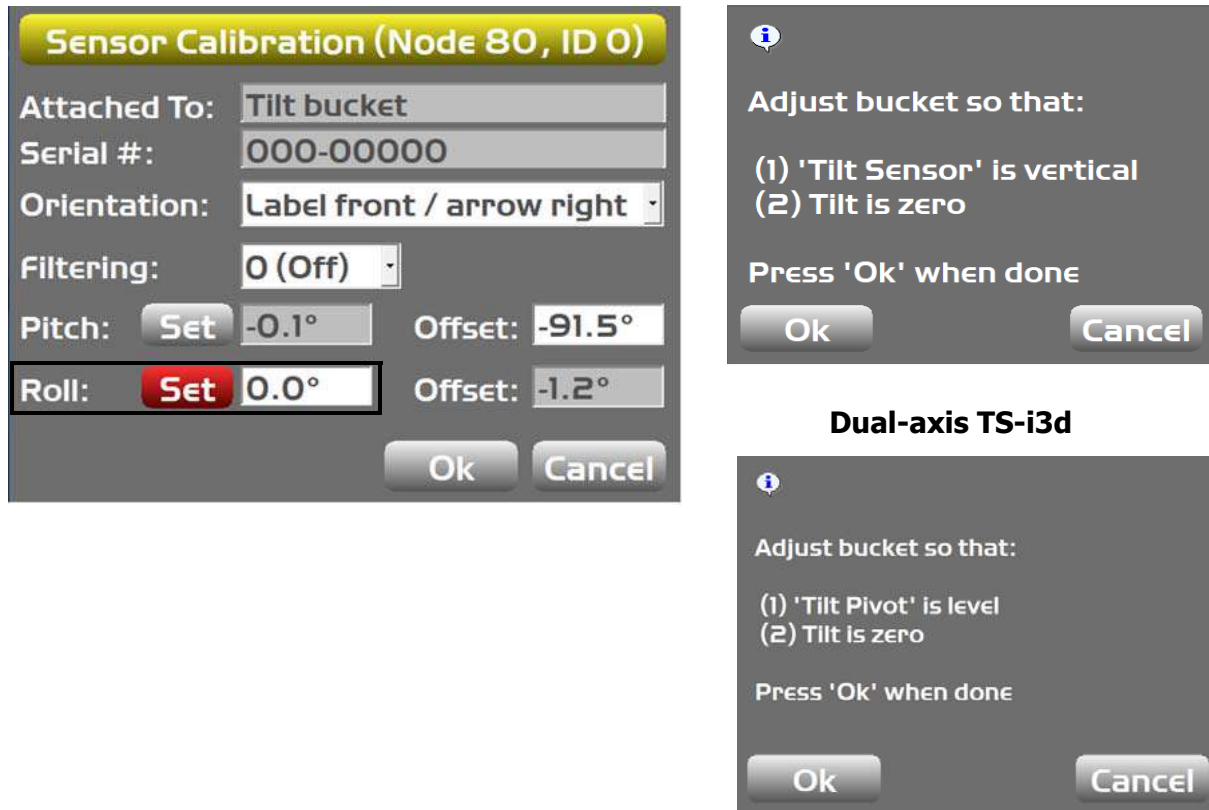

Figure 78: Set Roll
11. Tap the **Set** button for **Roll** (Figure 78 on page 58). A popup screen will appear.